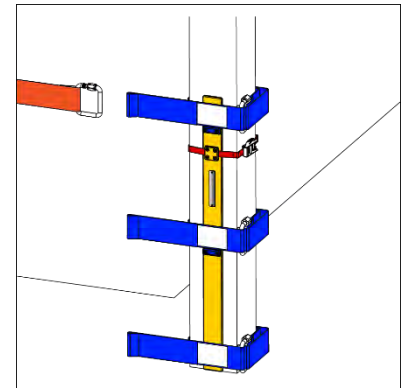

Figure 59
- Close the Quick Link by rotating the nut. Fully close the screw gate of the quick link before tensioning the strap. Failure to close the screw gate will damage the quick link. (Fig. 59)